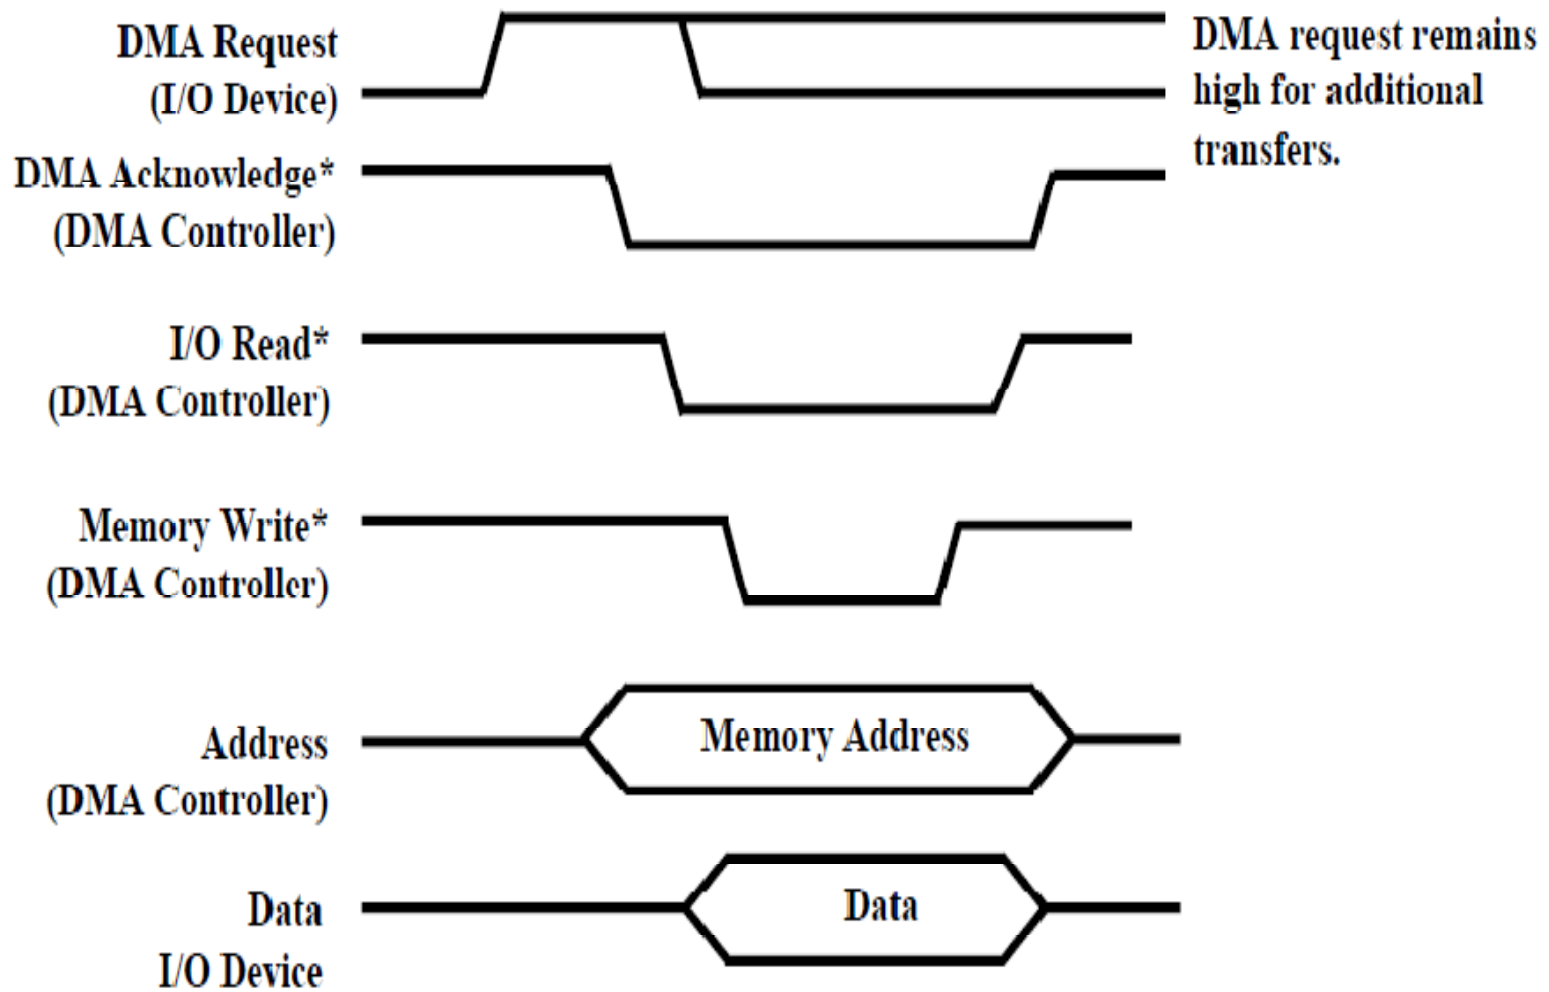

Fig. 16.2 Flyby DMA transfer
- This signal alerts the requesting device to drive the data onto the system data bus or to latch the data from the system bus, depending on the direction of the transfer. In other words, a flyby DMA transfer looks like a memory read or write cycle with the DMA controller supplying the address and the I/O device reading or writing the data. Because flyby DMA transfers involve a single memory cycle per data transfer, these transfers are very efficient. Fig.16.2 shows the flyby DMA transfer signal protocol.